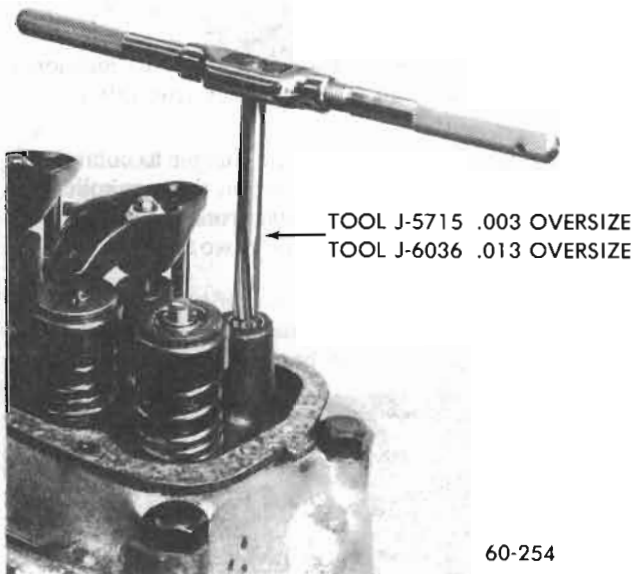

Figure 60-17--Reaming Rocker Arm Stud Hole
1. If rocker arm stud is loose or pulled out of head it will be necessary to ream stud hole to next largest size. See Figure 60-17.